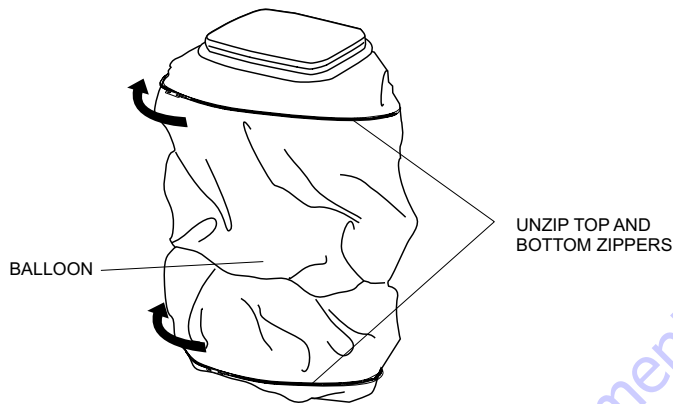

Figure 20. Unzipping Balloon
1. Unzip the top and bottom of the balloon. See Figure 20.